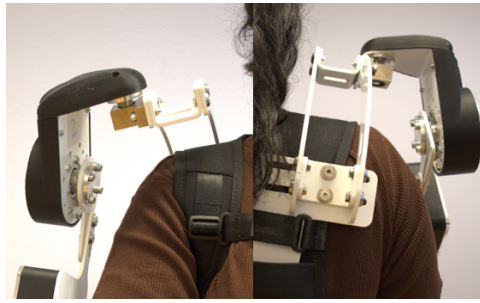

Figure 2: *Shoulder joint aligned (left) and misaligned (right).*
2. Make sure that the shoulder part of the exoskeleton is aligned with your shoulder, which can be seen in Figure 2. And then tighten the chest and waist straps.
1. Under the shoulder joint on the back of the exoskeleton you can find two bolts for which the 3.0 Allen Key fits, the bolts are marked in Figure 4. Loosen these, align shoulder joints according to Figure 2 and tighten the bolts.